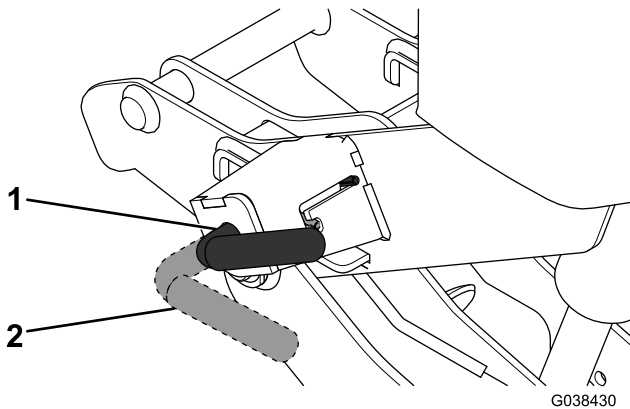

Figure 18
4. Turn the levers on the couplers to the ATTACH position (Figure 18).
7. Ensure that both coupler spring pins have fully engaged the coupler (Figure 18).